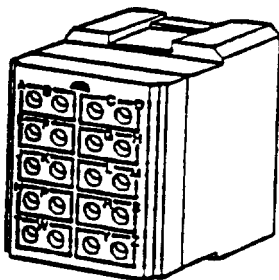

Figure 1. TJS Block
2. The Terminal Junction System (TJS) consists of bussing blocks, racks, brackets, wire-in-line junctions, grounding terminals, grounding blocks, electronics blocks and electronic in-line junctions that are used for innerconnecting electrical components and equipment in an electrical or electronic system. These environment resistant components have in common the use of crimp type external pin contacts in accordance with MIL-C-39029/1 for series I or crimp type external socket contacts in accordance with MIL-C-39029/22 for series II## This family of TJS components is designed to operate continuously over a temperature range of -85°F to +392°F (-65°C to +200°C) (Figure 1).
13. **BUSSING.** Bussed means interconnected electrically within the component housing. Bussing arrangements and their circuit designators are shown in the boxed areas on top of the grommet (Figure 1). Each common bussed area is called a module.